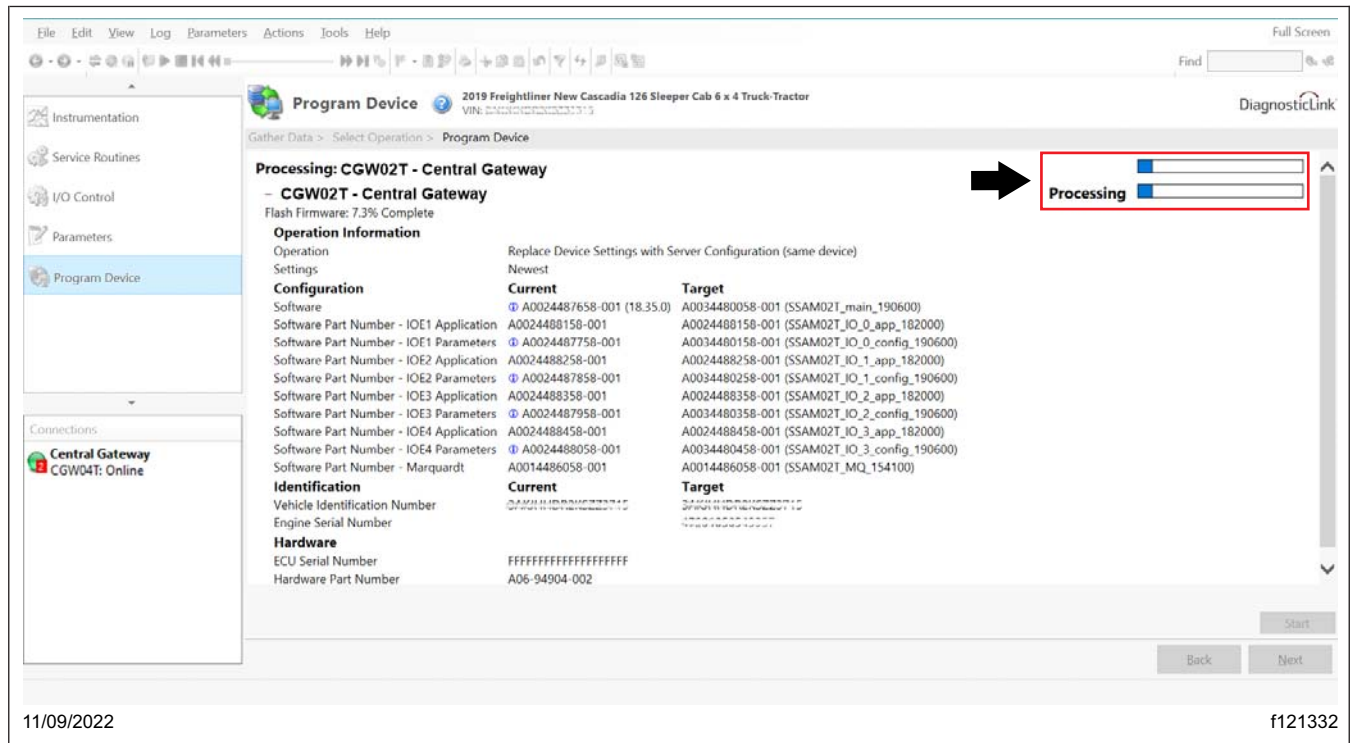

Fig. 13, Programming the Device
18. The updated software and parameters will be installed on the device. See Fig. 13.